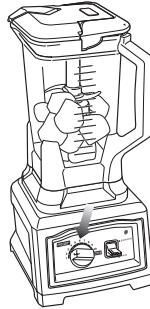

Fig. 7
- 11 When you have reached your desired consistency, reduce speed slowly and stop the unit by pressing up on the Start/Stop/Pulse toggle and wait for the blade assembly to stop turning. (Fig. 7)